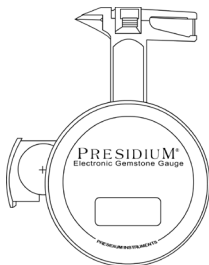

Fig. 1.1
2. Place a CR 2032 3V battery with the (+) sign facing upward in the battery compartment and close by pushing the battery slider sideways inward (**Fig. 1.1**).